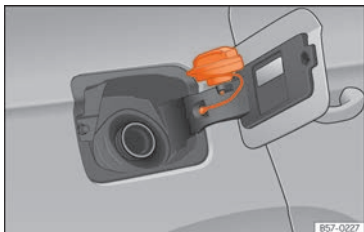

Fig. 196 Fuel tank flap with tank cap attached.
- Place it in the space on the hinge of the open flap » **Fig. 196**.